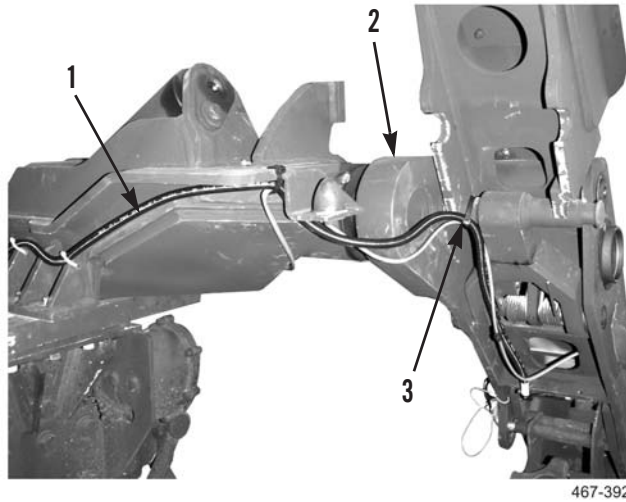

Figure 27. Twistlock Sensor Harness Installation.
1. Route twistlock harness (Figure 27, Item 1) to slider assembly (Figure 27, Item 2), and install new tiedown straps (Figure 27, Item 3) as required.